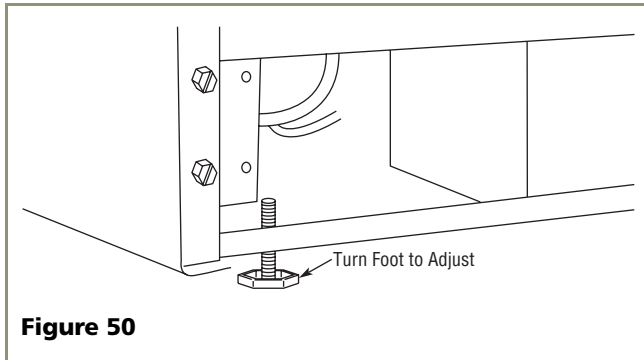

Figure 50
- If the ice maker is not level, adjust the feet on the corners of the unit as necessary (see **Figure 50**).